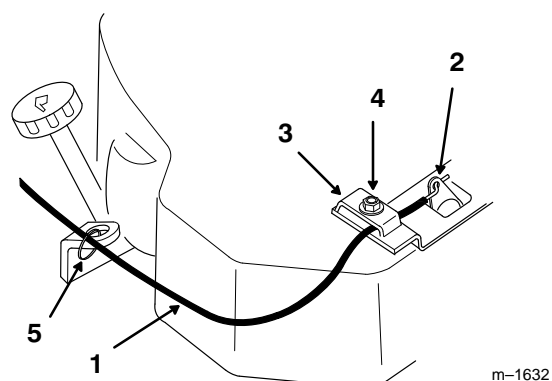

Figure 6
2. Route choke cable under fuel tank bracket and around right side of engine (Fig. 6).
5. Push firmly on choke cable until choke lever is in the full open position. Tighten cable clamp screw (Fig. 6).